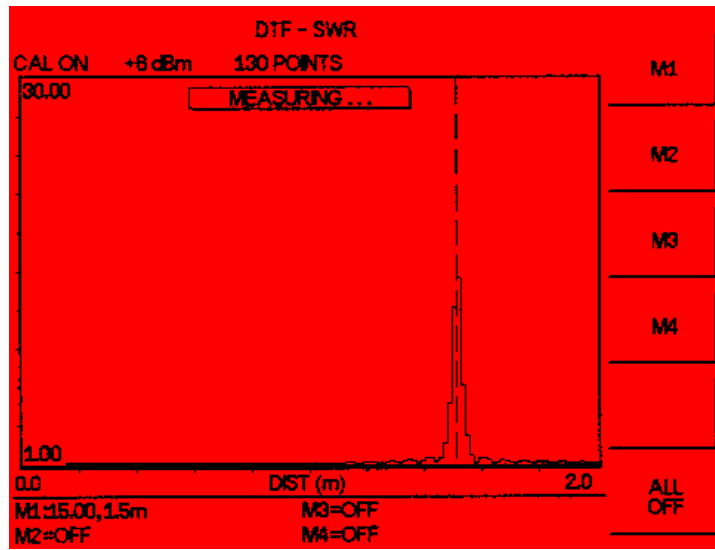

Figure 4-13. DTF - SWR Measurement Results (cable length)
Step 23. Press the **BACK** soft key or the **ESCAPE** key to return to the previous menu. Figures 4-13 and 4-14 show cable length displays in SWR and Return Loss modes.